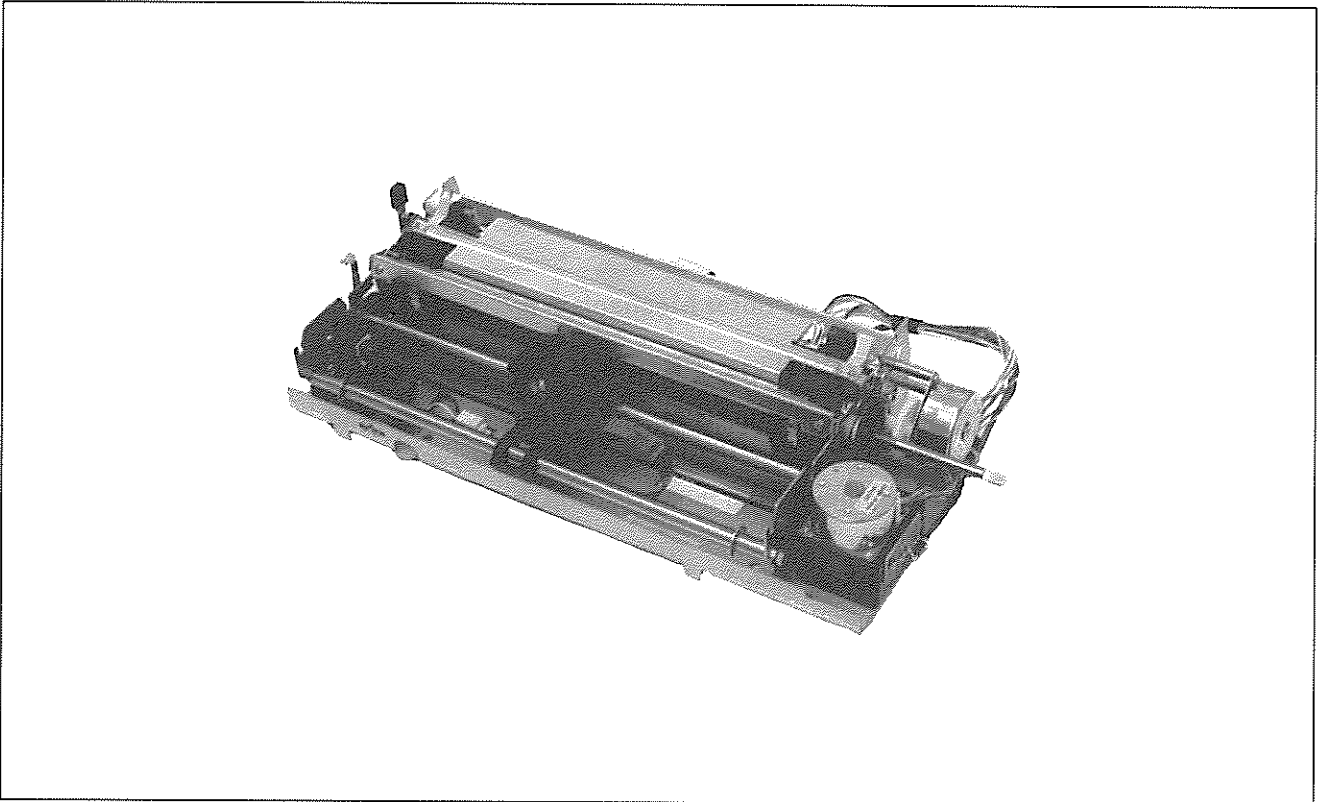

Fig. 1-4. Model-3510 Printer Mechanism (FX-80+/FX-85)
1.4.1 MODEL-3510/3560 PRINTERS MECHANISM (Refer to Figs. 1-4 and 1-5)